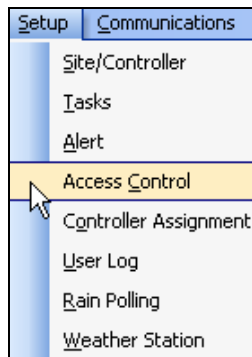

Figure 9.1.1
1. In the toolbar at the top of the screen select **Setup** and then scroll down to **Access Control** and click on it (Figure 9.1.1).